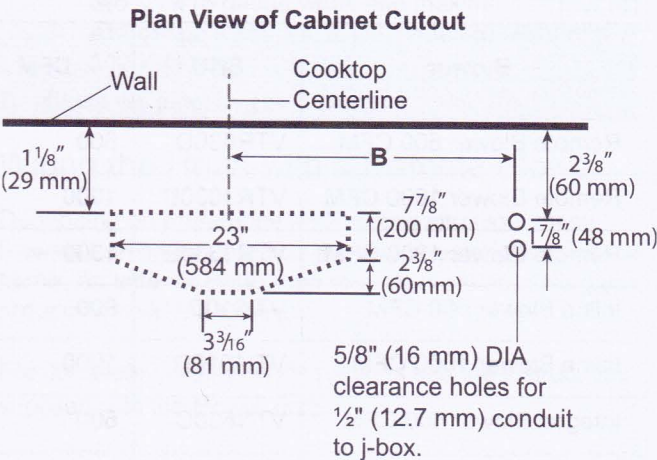

Figure 16: Transition and Conduit Locations
2. Screw in (4) 1" (25 mm) screws (provided with hood) leaving 1/4" (6 mm) exposed to hang hood on.
3. If the hood is installed for vertical discharge, refer to Figure 16 to create clearance holes for passage of the transition and conduit. Refer to Dimension B in Figure 16 and Table 2.